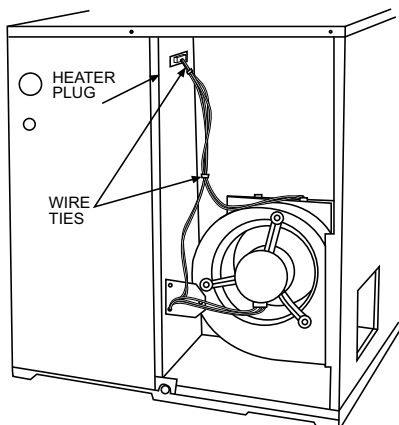

Fig. 7 – Removal of Right Side Back Panel
- a. Removal of the right side (side with electric access), right back panel to access components above. (See Fig. 7.)